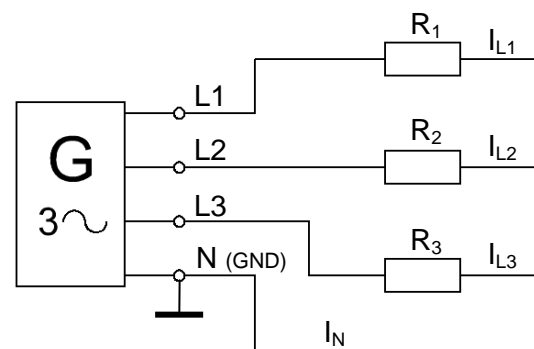

Fig. 12.3.2.1: Measurements on the star circuit
- Load the three-phase generator on the Electronic Circuits Board with 3 resistors connected in a star circuit, as in Fig. 12.3.2.1. First, use 3 resistors of the same value, each 1 k Ω (assembly details are given in section 12.3.3).